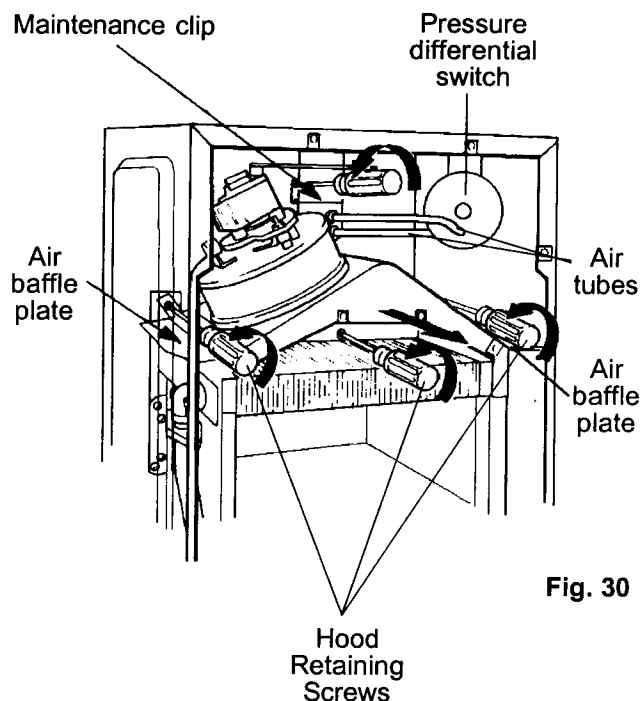

Fig. 30
- 8.9.4 Remove two air baffle plates. 1 screw securing each. (fig. 30)
- 8.10.2 Loosen maintenance clip securing screws (see fig. 30) and slide upwards to clear joint.
- 8.10.4 Remove 3 flue hood retaining screws (see fig. 30)
Refer to Fig. 30